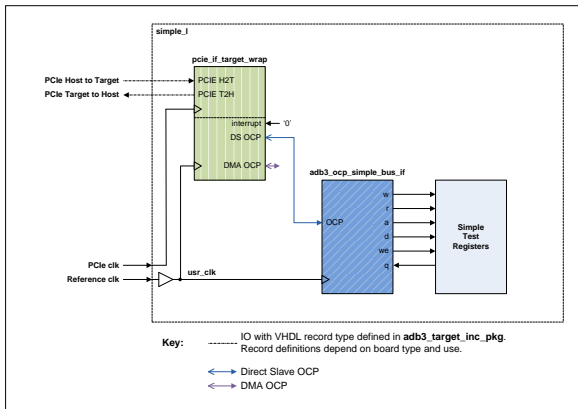

Figure 9: Simple Design Block Diagram (PCIe)
**Figure 9** below shows the main elements of the **Simple** design using PCIe interface IP.